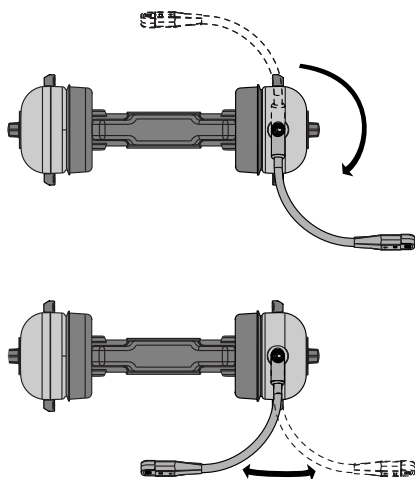

FIGURE 3. Rotating and Reshaping the Boom
1. Rotate the **boom**, as shown in Figure 3.